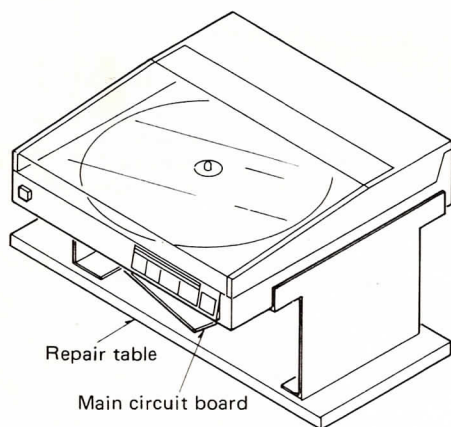

Fig. 27
1. How to use the repair table (Fig. 27)
- ① Remove the bottom board.
- ② Remove the main circuit board and connect the P.C.B. ground terminal to the chassis. (stator frame)
- ③ Put the unit on the repair table.
- ④ Fit the turntable platter and put on the turntable mat.
- ⑤ Put on the record and check the circuits from under the unit.